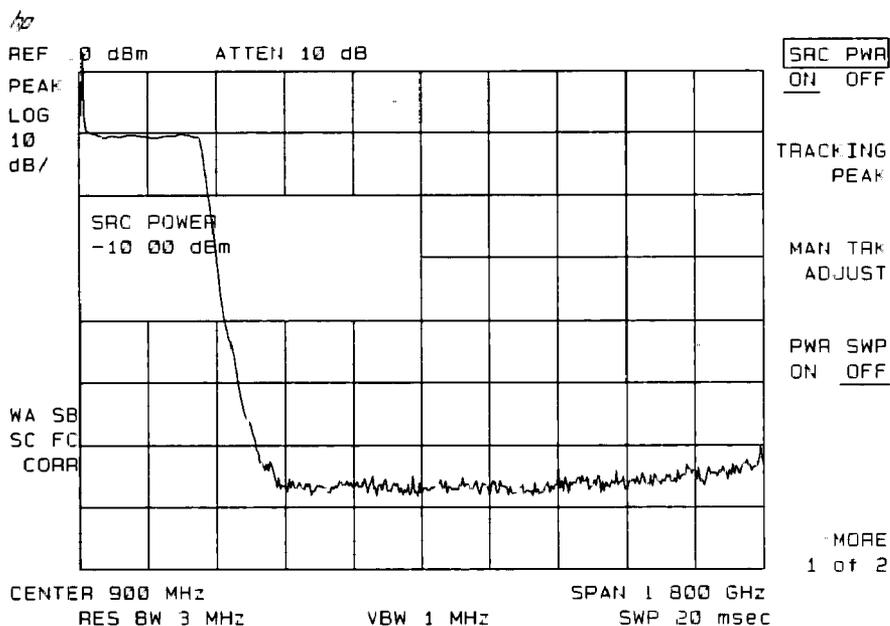

Figure 6-36. Tracking-Generator Output Power Activated
3. Activate the tracking generator menu by pressing **AUX CTRL**, **TRACK GEN**. To activate the tracking-generator power level, press **SRC PWR ON OFF** until **ON** is underlined. See Figure 6-36.